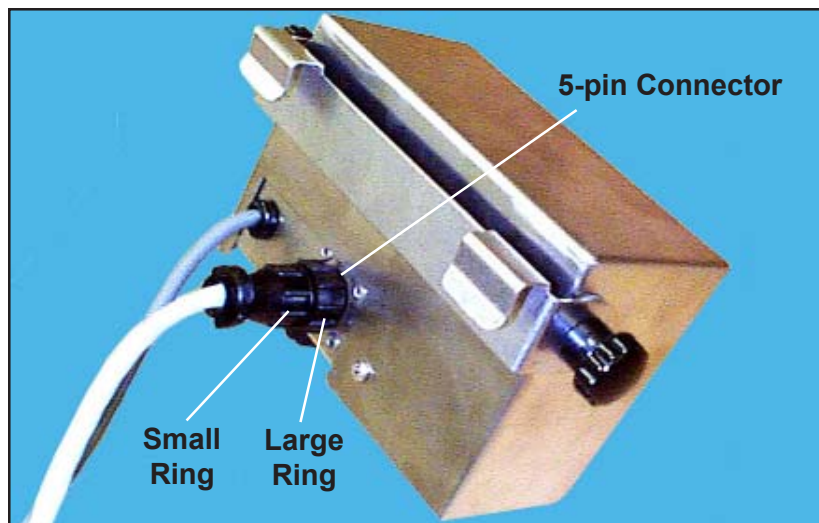

Figure 16. The 5-pin Connector to the Heat Controller
3. Turn the *large* ring on the 5-pin connector counter clockwise and pull the cable from the connector on the rear of the heat controller (Figure 16).
Warning: To tighten or loosen the 5-pin connector, **ALWAYS** turn the large ring (Figure 16). **NEVER** turn the small ring. Trying to turn the small ring can tear the pins out of the connector.
1. Making sure that the pins and holes line up correctly, plug the 5-pin plug into the socket in the back of the heat controller and secure the connection by turning the large ring clockwise (Figure 16).